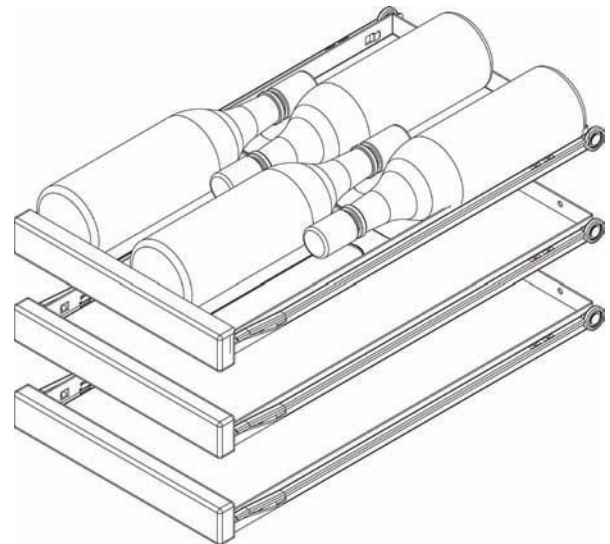

Figure 5
The wine rack can be placed in the position you desire. For red wines, place the wine rack in the upper most position (the warmest) and for white or sparkling wines in the middle to lower position (the coldest). Place the glass shelves as desired on the remaining five (5) choices of rail glides (see Figure 5).